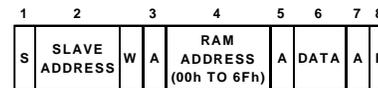

Figure 3b. Single Byte Write To RAM
1. Write a single byte of data to RAM. In this case the command byte is the RAM address from 00h to 6Fh and the (only) data byte is the actual data. This is illustrated in Figure 3b.